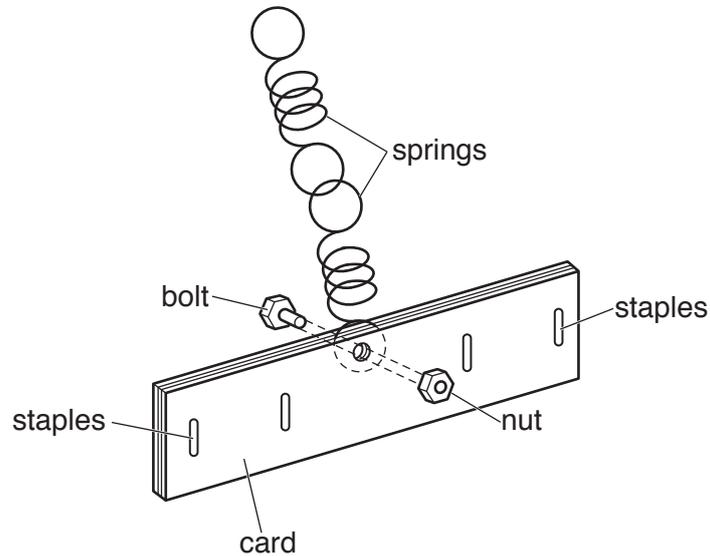

Fig. 1.2
2. A piece of A4 card should be cut into four identical strips $29.7\text{ cm} \times 5.25\text{ cm}$ and stapled together. A small hole should be drilled in the card half way along its length and just above centre to allow a small bolt to pass through. The loop of one of the springs should be inserted into the centre of the strips and aligned with the hole in the card. The spring should be secured in this position by attaching a nut to the end of the bolt as shown in Fig. 1.2.